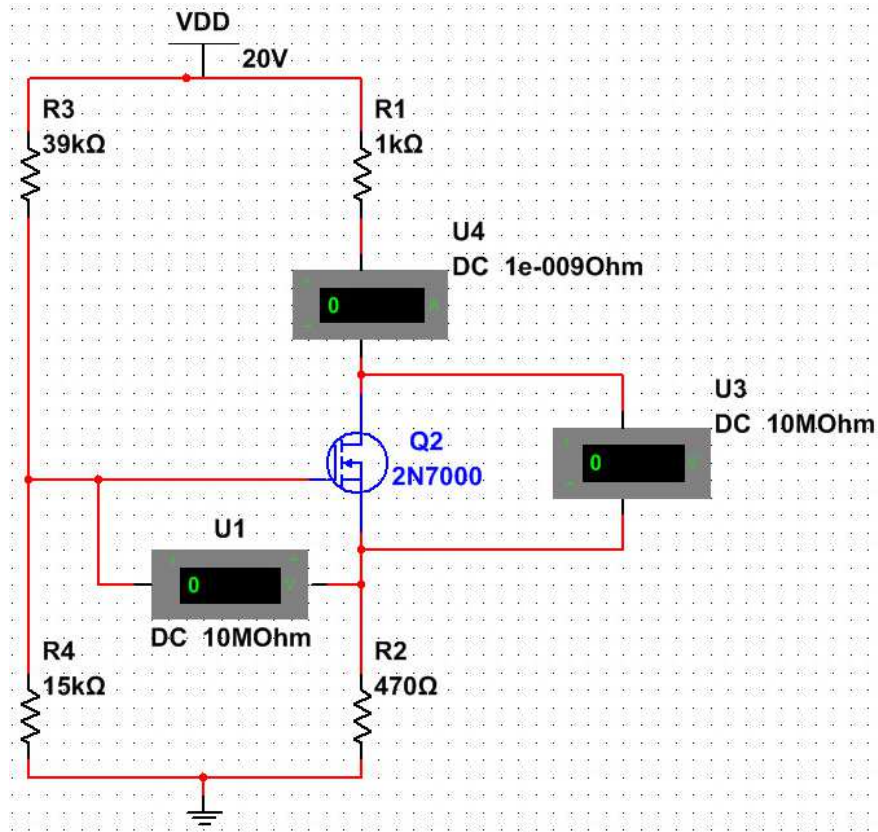

FIGURE 3 –
5. Build the circuit of figure 3. Measure I_D , V_{GS} and V_{DS} .
Report : Using your estimated values of K , V_t and the component values in the circuit of figures 3, 5, calculate theoretically the Q -point of the MOSFET. Compare the calculated theoretical Q -point with the Q -point measured in parts 5 and 6.